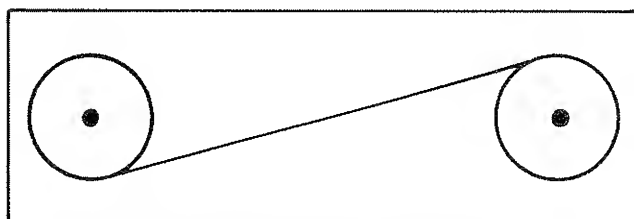

Figure 2-3. Threading Direction for Ribbon Spools
2. Refer to Figure 2-3 and ensure that the ribbon is properly threaded on the spools.